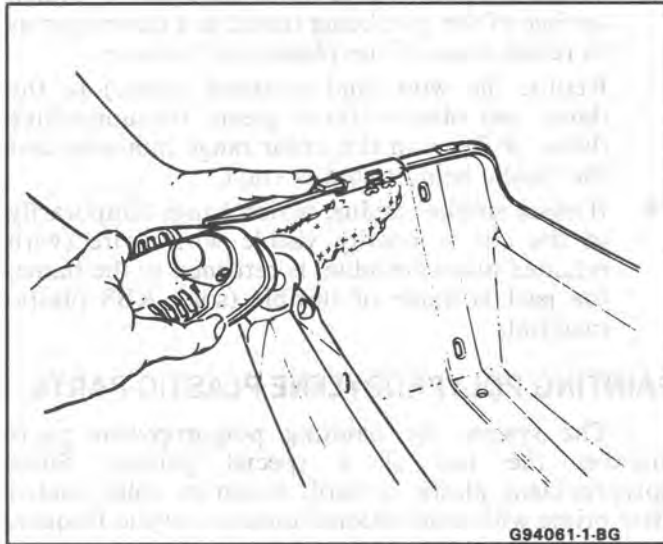

Fig. 21-Discing Back Side of Damage
- b. Clean the underside of the repair area as in step 1a. Sand each side of the break with a #50 grit disc (Fig. 21).